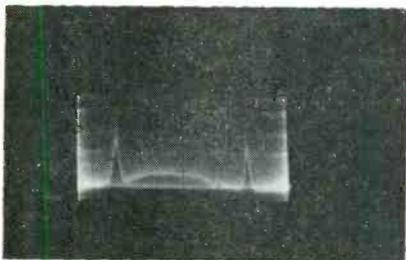

Fig. 2—Blurred image caused by open scope testleads.
A. This situation (shown in Fig. 2), is caused by pick-up of pulse voltages from the stray field of the picture tube by the open test leads. A